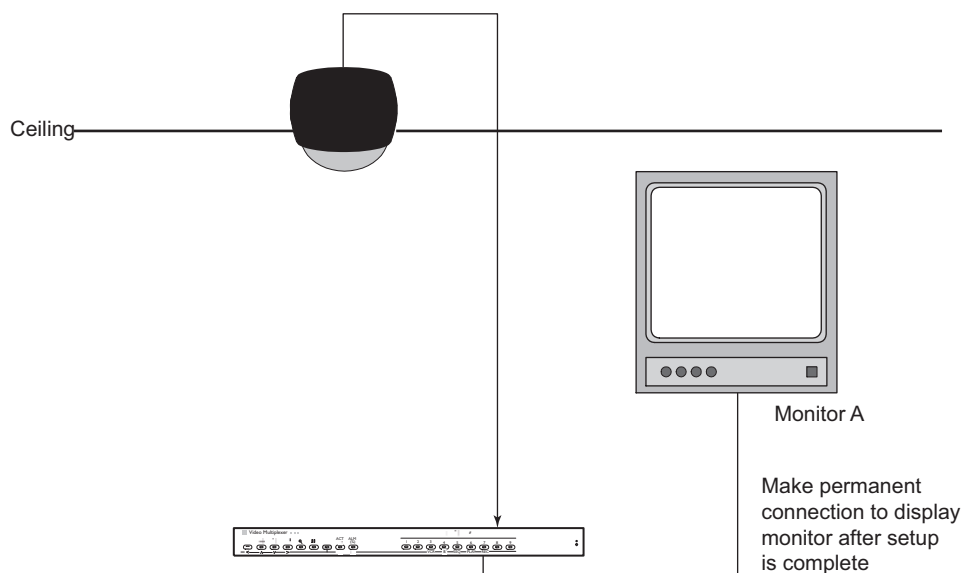

Figure 6b Example of Permanent Configuration
4. Disconnect the setup coax and connect the coax video cable to the main monitor at the viewing station. See **Figure 6b** for an example of a permanent configuration.